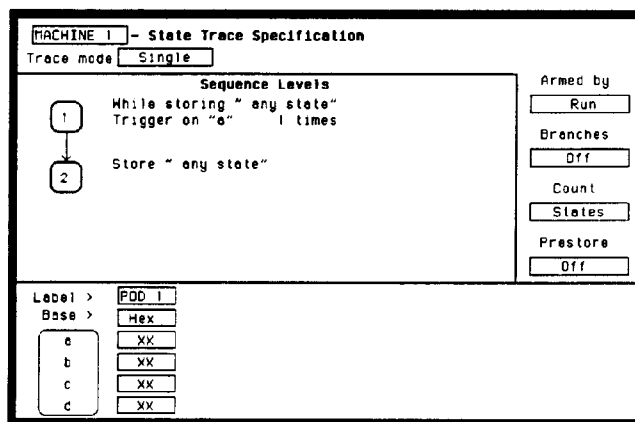

Figure 3-9. Trace Specification for Data Test 1
5. Set up the **State Trace Specification** without sequencing levels and set **Count States** as in figure 3-9. Refer to steps a through c if you are unfamiliar with menus.